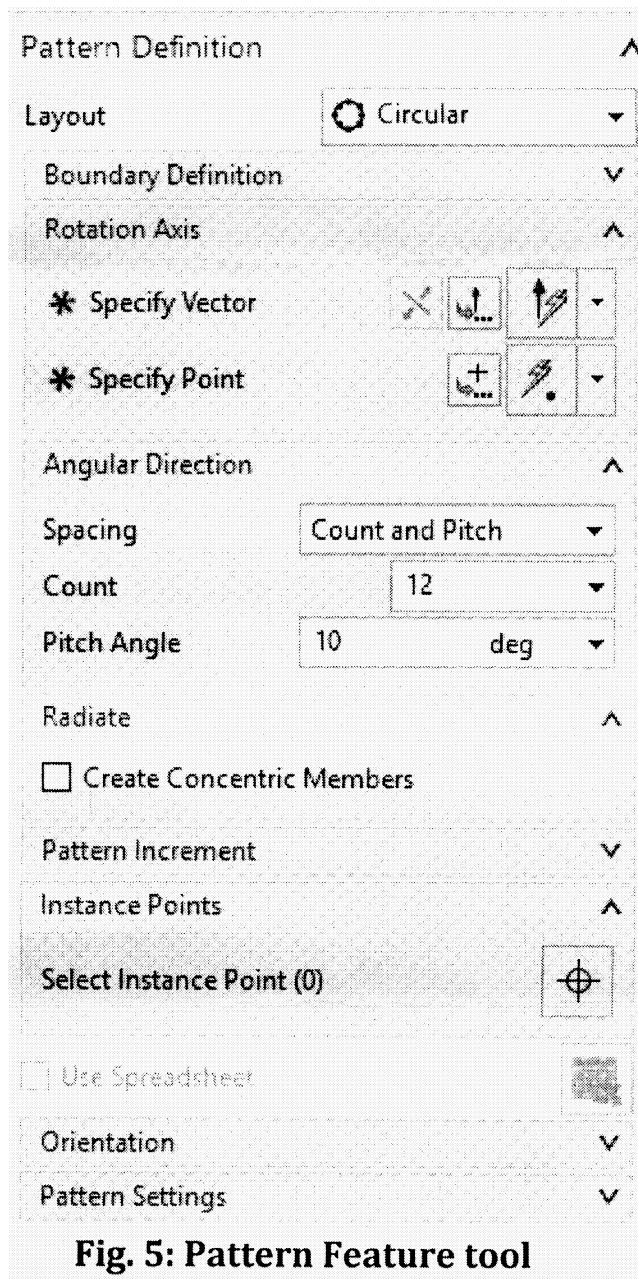

Fig. 5: Pattern Feature tool
(1) What are Ribs ? Explain the Rib tool in detail. 7
(2) What is Edge Blend ? Explain in detail Edge Blend tool. 7
(3) Consider Fig. 5 and explain how one can create a circular pattern using Pattern feature tool. 7